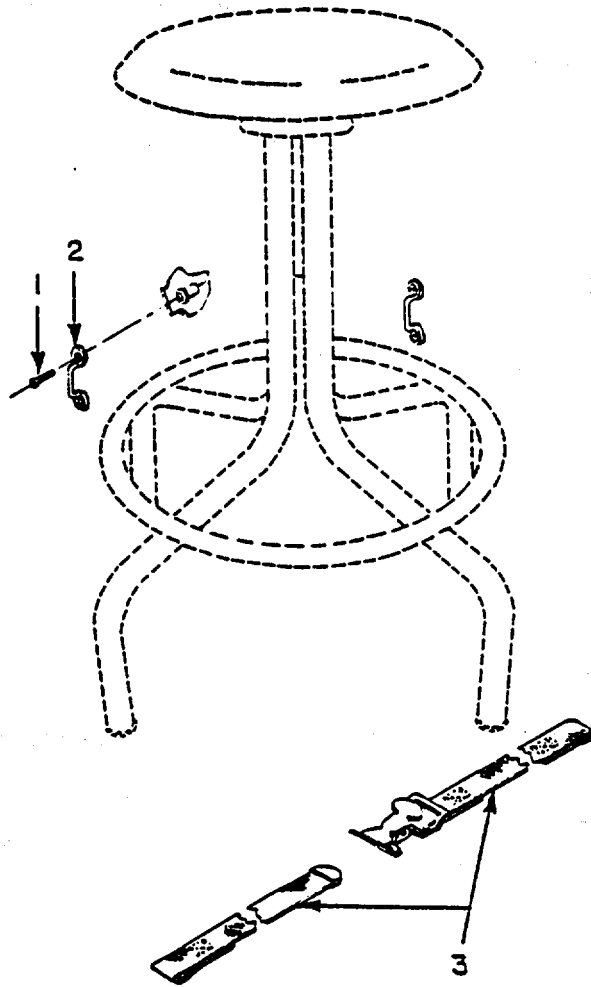

Figure 4-65. Stool Holddown Assembly
a. Inspect. (See Figure 4-65.)
- (1) Inspect webbing of strap assemblies (3) on roadside shelter wall under each light table for wear, frayed sewing, and decayed fabric.
- (2) Inspect fastener loops (2) for secure mounting to roadside shelter wall.
- a. Inspect. (See Figure 4-65.)
- b. Replace. (See Figure 4-65.)
- (1) Remove screws (1) and fastener loops (2) from shelter wall.
- (2) Remove strap assembly (3) from fastener loops (2).
- (3) Install replacement strap assembly (3) on fastener loops (2).
- (4) Install and secure fastener loops (2) to shelter wall with screws (1).